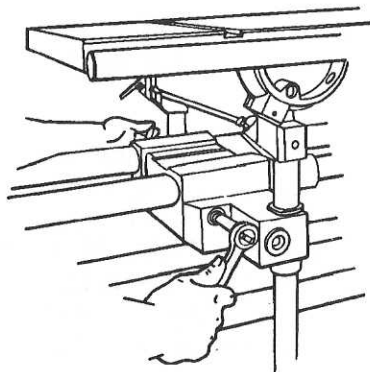

Fig. B-45
3. If the carriage lock handle (187) does not snap into the horizontal position or the carriage moves out of position, the lock needs adjusting. To adjust the lock, use a 1/2" socket with an extension and ratchet handle to tighten or loosen the nut located at the back of the carriage assembly, as shown in Fig. B-45.